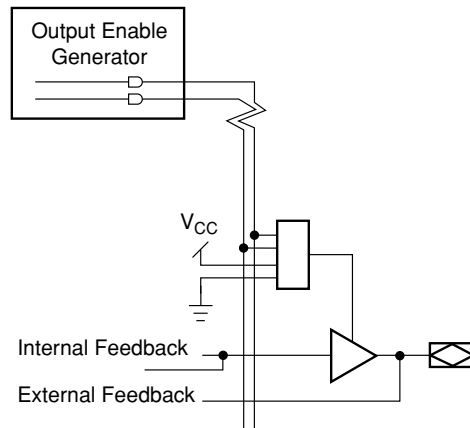

**Figure 6. Output Enable Generator and I/O Cell**
There is one output enable (OE) generator per PAL block that generates two product-term driven output enables. Each I/O cell is simply an output buffer. Each I/O cell within the PAL block can choose to be permanently enabled, permanently disabled, or choose one of the two product term output enables per PAL block (Figure 6).